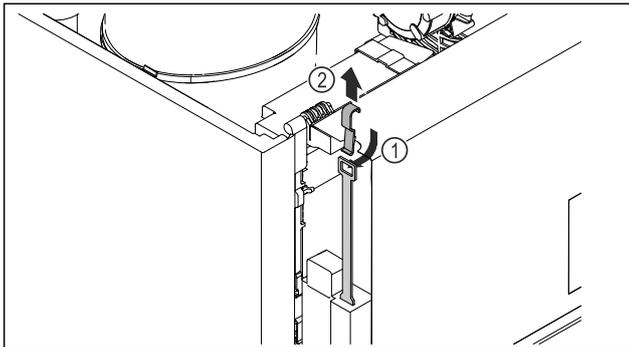

Fig. 248
- ▶ Insert the emergency release key Fig. 248 (1) from above, hook it onto the lock and pull it upwards Fig. 248 (2).